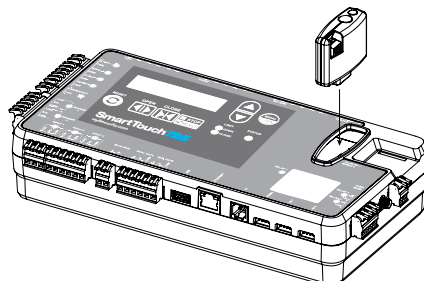

Figure 50. Install OXI Receiver
2. Install the receiver. (Figure 50)